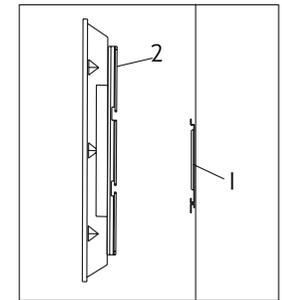
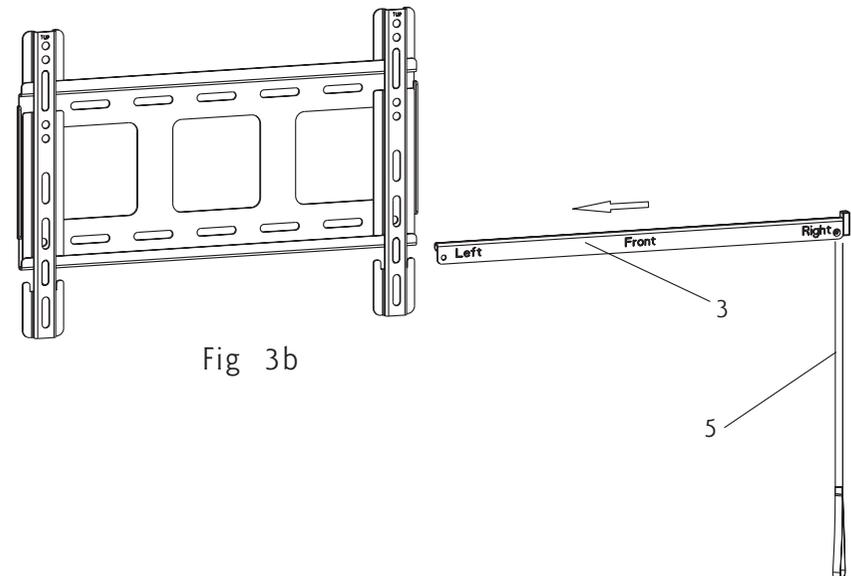

Fig 3a
Fig 3b
Firstly lift the bracket mounted display over the wall mount. And then hook the brackets over the top of the wall mount. Rotate the display let the bottom of the brackets hook over the bottom of wall mount, as shown in Fig. 3a. Then use the Locking bar(3) to prevent the display from being removed or accidentally knocked off of the wall plate. When the locking bar half inserts into the wall plate, you can use the rotating rod(4) to make it fully inserted. screw out the locking rod(4), then the TV is settled, As shown in Fig.3b and Fig 3c. if you think the ribbon(5) is too long, You could hide it at the back of the television, once you want to uninstall the TV, it could help you to take out the locking bar(3).